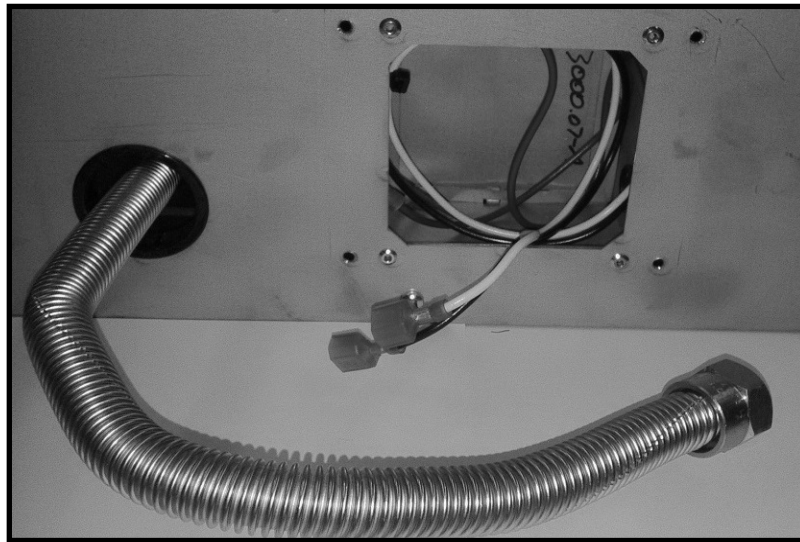

Figure 33: Electrical connection.
Open the access panel as seen in Figure 33 and connect the line wires to the supplied wires inside the junction box using marrettes. A licensed electrician must be used to make this connection.
2. Locate the inlet and outlet test ports on the valve which can be seen in Figure 33. After locating test ports loosen the screws within the ports using a flat -tip screwdriver.